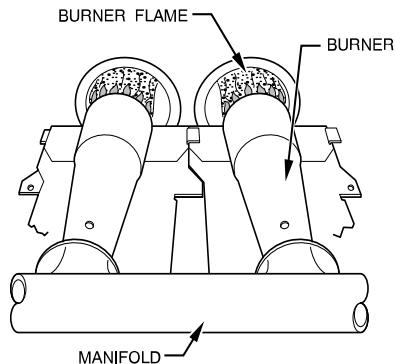

Fig. 65 – Burner Flame
- c. When correct input is obtained, replace caps that conceal gas valve regulator adjustment screws. Main burner flame should be clear blue, almost transparent See Fig. 65.